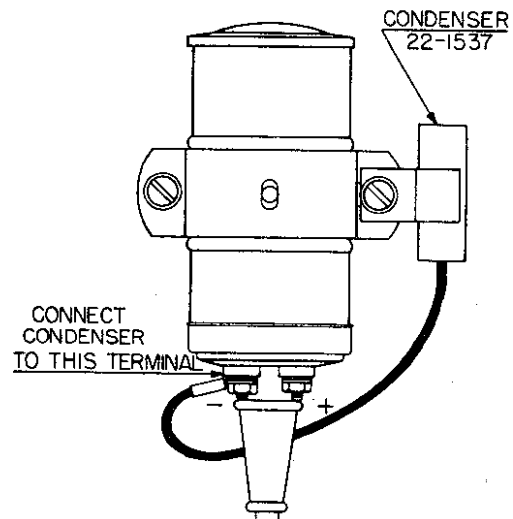

Fig. 6
3. Remove bolt on the right side of the ignition coil. Mount condenser No. 22-1537 under this bolt. Connect lead to coil terminal marked (-). (Fig. 6.)